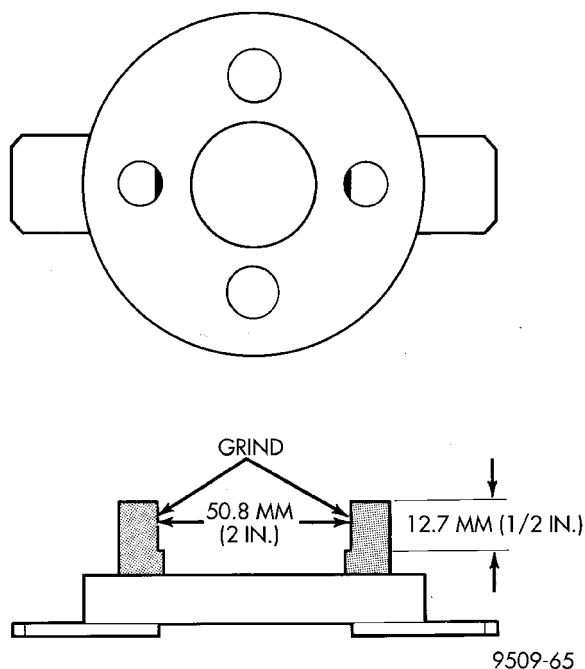

Fig. 38 Modification to Special Tool
(1) Remove timing belt cover and belt. Removal procedure is outlined in this section. Remove camshaft sprocket bolt, with the Modified Special Tool C-4687-1 as shown in (Fig. 38).
(2) Hold camshaft sprocket with modified tool while removing bolt. Remove sprocket from camshaft.
(2) Install camshaft sprocket retaining bolt. Hold camshaft sprocket with Special Tool C-4687-1 (Fig. 38) and tighten bolt to 115 N·m (85 ft. lbs.).